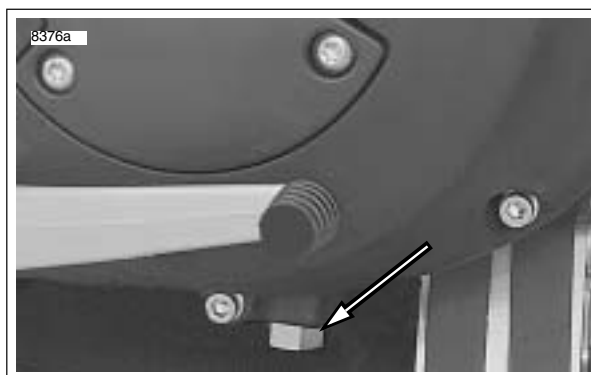

Figure 1-21. Primary Drain Plug
2. See Figure 1-21. Position a suitable container under drain plug. Remove plug and drain fluid.